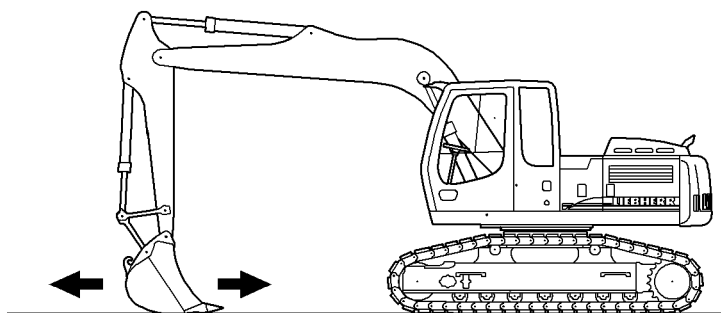

Fig. 3-138 Skimming
- ▶ To skim with a backhoestick bucket, lay this on the ground (siehe Fig. 3-138) and move the stick slowly forwards and backwards. Move the boom steadily up and down while the stick is moving.